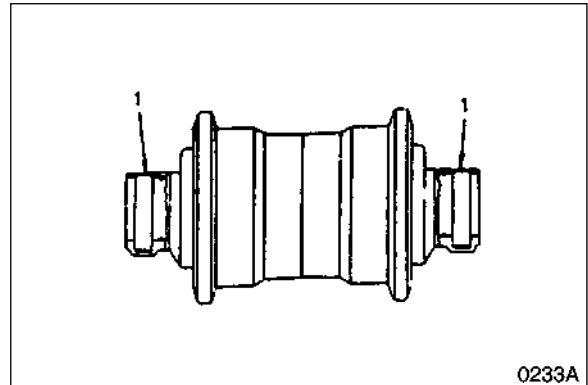

Figure 32
2. Pull the pin (1, Figure 32) from the collar.